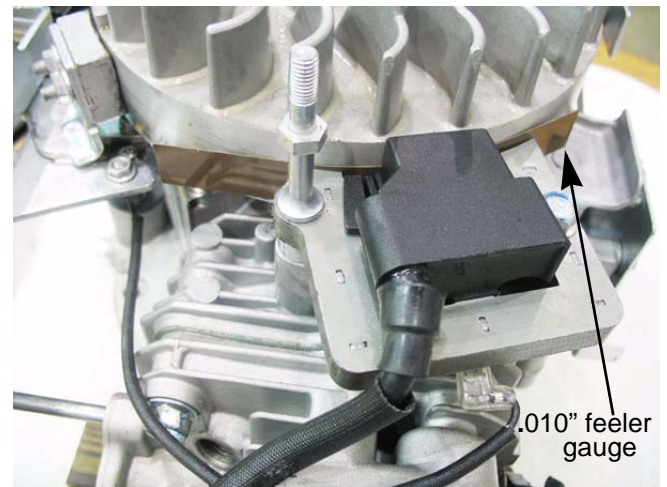

Figure 7.16
3. Place a non-ferrous feeler gauge between the module and the flywheel. See Figure 7.16.